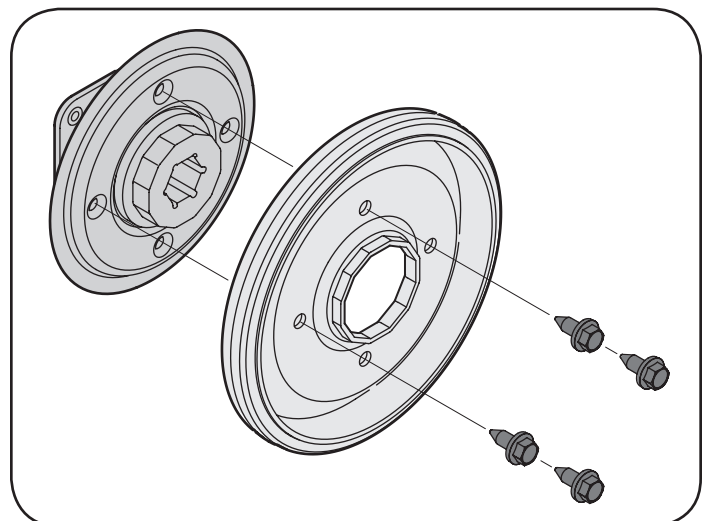

Figure 32
7. Remove four screws securing the friction wheel to the hub assembly (refer to Figure 32). Discard old friction wheel.